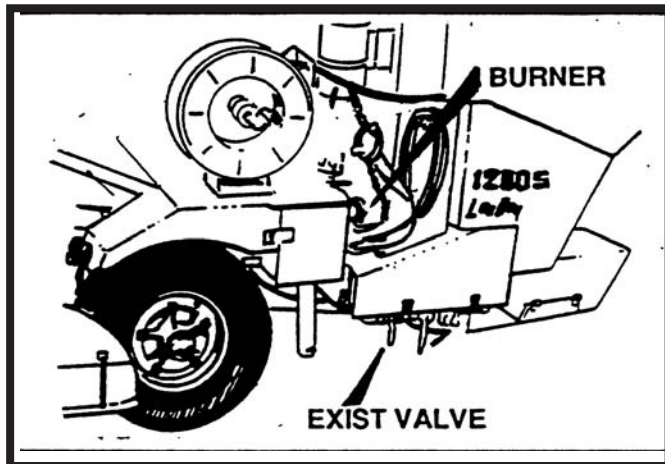

Figure 4
- D. See figure 4 and open tack exit valve.
- G. After step (F), flush tack system as described on page 13 procedure 7.